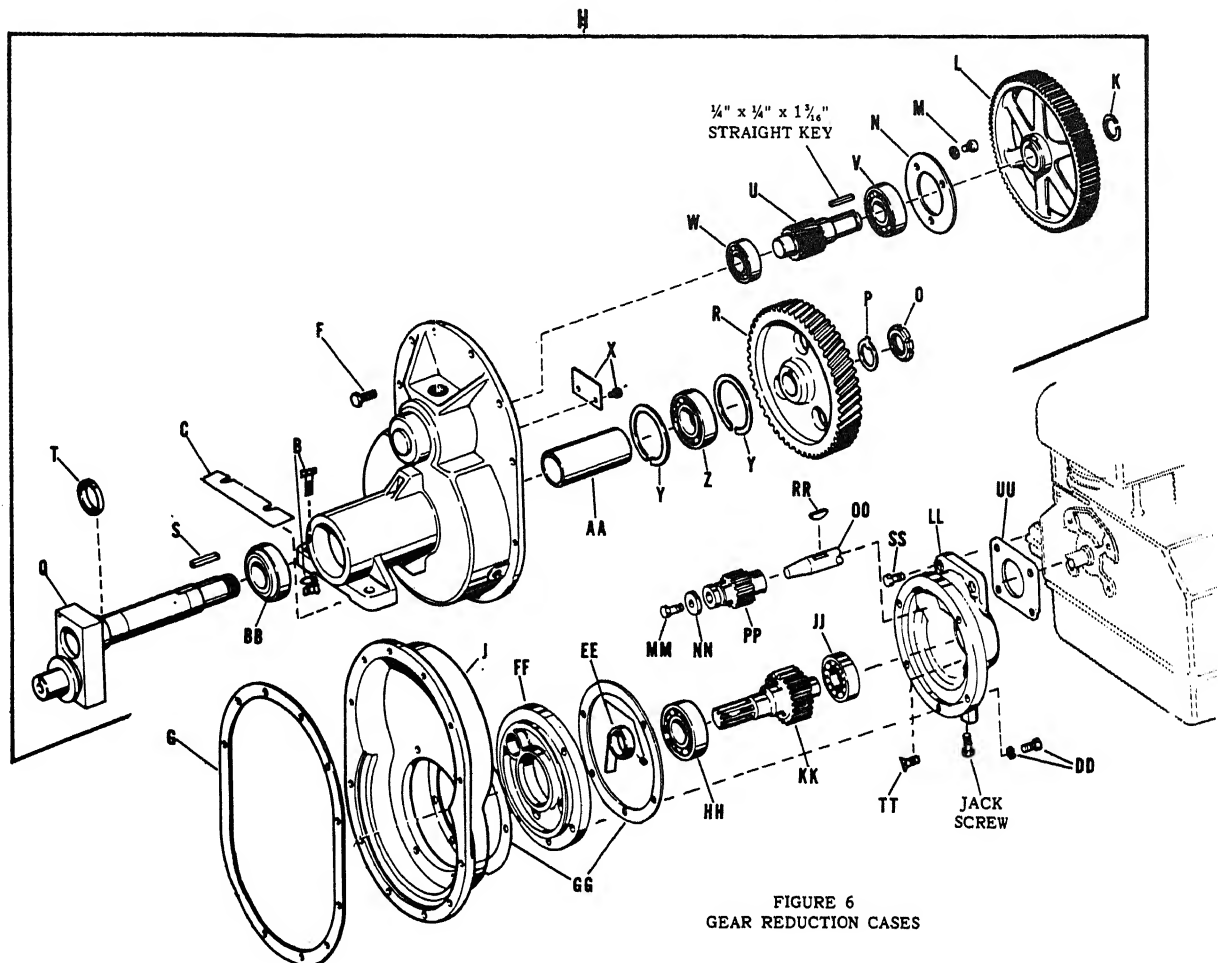
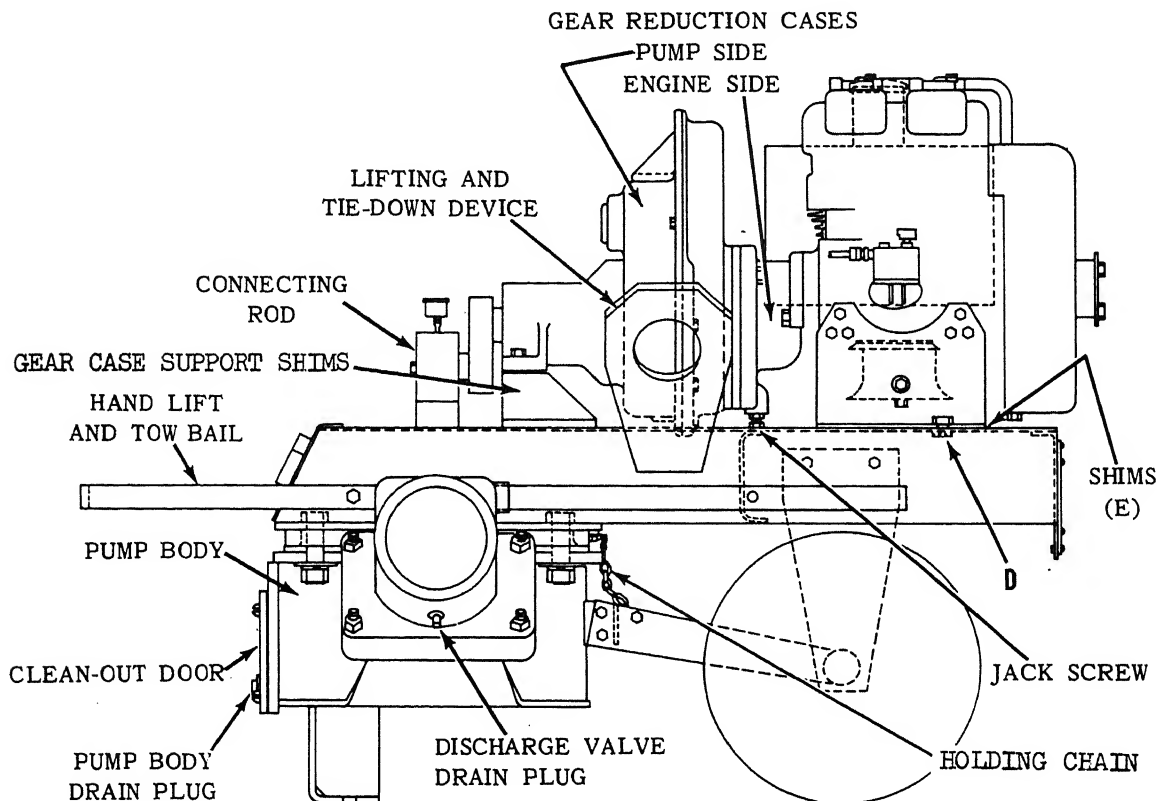

FIGURE 6
FIGURE 7
22. Gearcase (pump side) Disassembly and Assembly – (Ref. Fig. 6 and 7)
- C. Ref. Fig. 6. Remove the two $\frac{1}{2}$ " bolts, lock washers and nuts (B) holding gearcase to the gearcase support. Ref. Fig. 7. Remove two bolts with lock washers and nuts (D), Fig. 7, holding engine to frame. Save shims (C) Fig. 6, and shims (E) Fig. 7 for reuse.
- E. Twelve $\frac{5}{16}$ " cap screws (F) holding the cover halves together. Remove these bolts and pull reduction case assembly (H) from intermediate section (J). Gasket (G) should be replaced new in reassembly.
- F. Pry out snap ring (K) and pull spur gear (L) off pinion shaft (U). The $\frac{1}{4}$ " straight key may be saved for reuse if not damaged.
- G. Remove three $\frac{5}{16}$ " socket head cap screws with lock washers (M) and retainer (N).
- H. Straighten ear of lock washer (P). Remove lock nut (O) and washer (P). Pull output shaft crank arm (Q) from housing (A). Retain gear (R) from falling. Remove key (S) and manipulate gear (R) from housing. Remove spacer (T).
- I. Pull pinion shaft (U) with bearings (V) and (W) from housing. Bearings (V) and (W) may be removed from pinion shaft.
- J. Remove the two round head screws and oil trap (X), and snap ring (Y).
- K. Bearing (Z) may be pulled from bore of housing. Pull out spacer (AA) and pull out bearing (BB) from housing, and inner snap ring (Y).
23. Gearcase (engine side) Disassembly and Assembly (Ref. Fig. 6)
- A. Remove the $\frac{1}{4}$ " socket set screw and oil slinger (EE). Note position of oil slinger for reassembly to prevent damage to oil slinger.
- B. Remove five $\frac{1}{4}$ " cap screws with lock washers (DD). Housing (J), bearing retainer (FF), gaskets (GG), bearings (HH) and (JJ) with pinion shaft (KK) may now be pulled from housing (LL).
- C. Pull bearings (HH) and (JJ) off pinion shaft (KK).
D. Remove cap screw (MM) with lock washer and special washer (NN) from engine shaft (OO). Pinion (PP) is grooved for removal with a puller. Remove pinion. Remove woodruff key (RR) from shaft (OO).
E. Remove three cap screws (SS) and internal flat head cap screws (TT) from housing. Pull housing (LL) with gasket (UU) from engine housing.
Reference for Fig. 6
25. Lifting and Tie Down (Ref. Fig. 7)